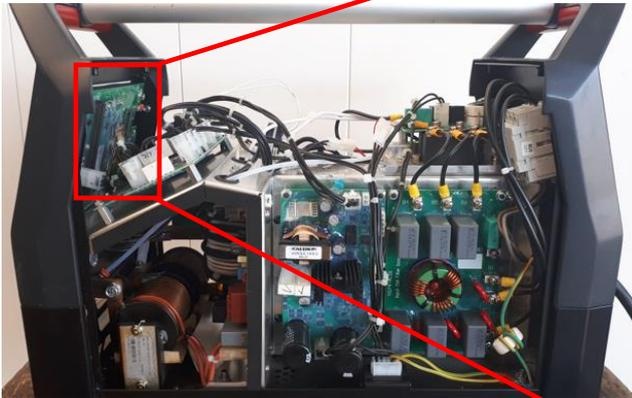

Figure 32
3. Locate the UI TFT Board. See **Figure 32**